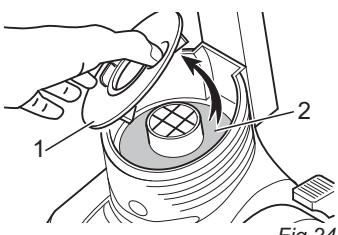

Fig. 24
3. Remove the blow-out filter cover (Fig. 24/1) by turning it 10 degrees to the left and lifting it up.
4. Remove the blow-out filter beneath this (Fig. 24/2).